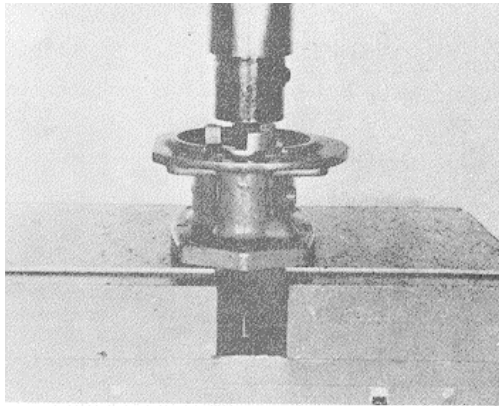

Fig. 5-49, F5144. Press drive gear assembly from front cover
8. If cover does not contain tachometer drive, install a longer capscrew in place of drive coupling retainer capscrew, press on capscrew to remove drive shaft bearing and shaft assembly from front cover. Fig. 5-49.